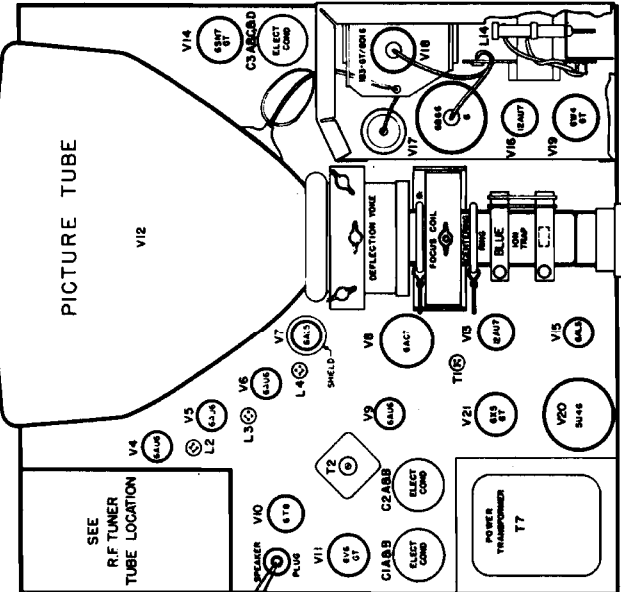

FIGURE 4. CHASSIS CONTROLS
- Adjust the height control R60 (on rear of chassis) (See Figure 4) until the picture fills the mask vertically.
- Turn the horizontal drive condenser C58 (on rear of chassis) (See Figure 4) as far counter-clockwise (down) as possible without crowding one side of the picture or causing the picture to tear. This will provide the maximum high voltage.
- Adjust the width control R14 (on rear of high voltage shield) (See Figure 4) until the picture fills the mask horizontally.